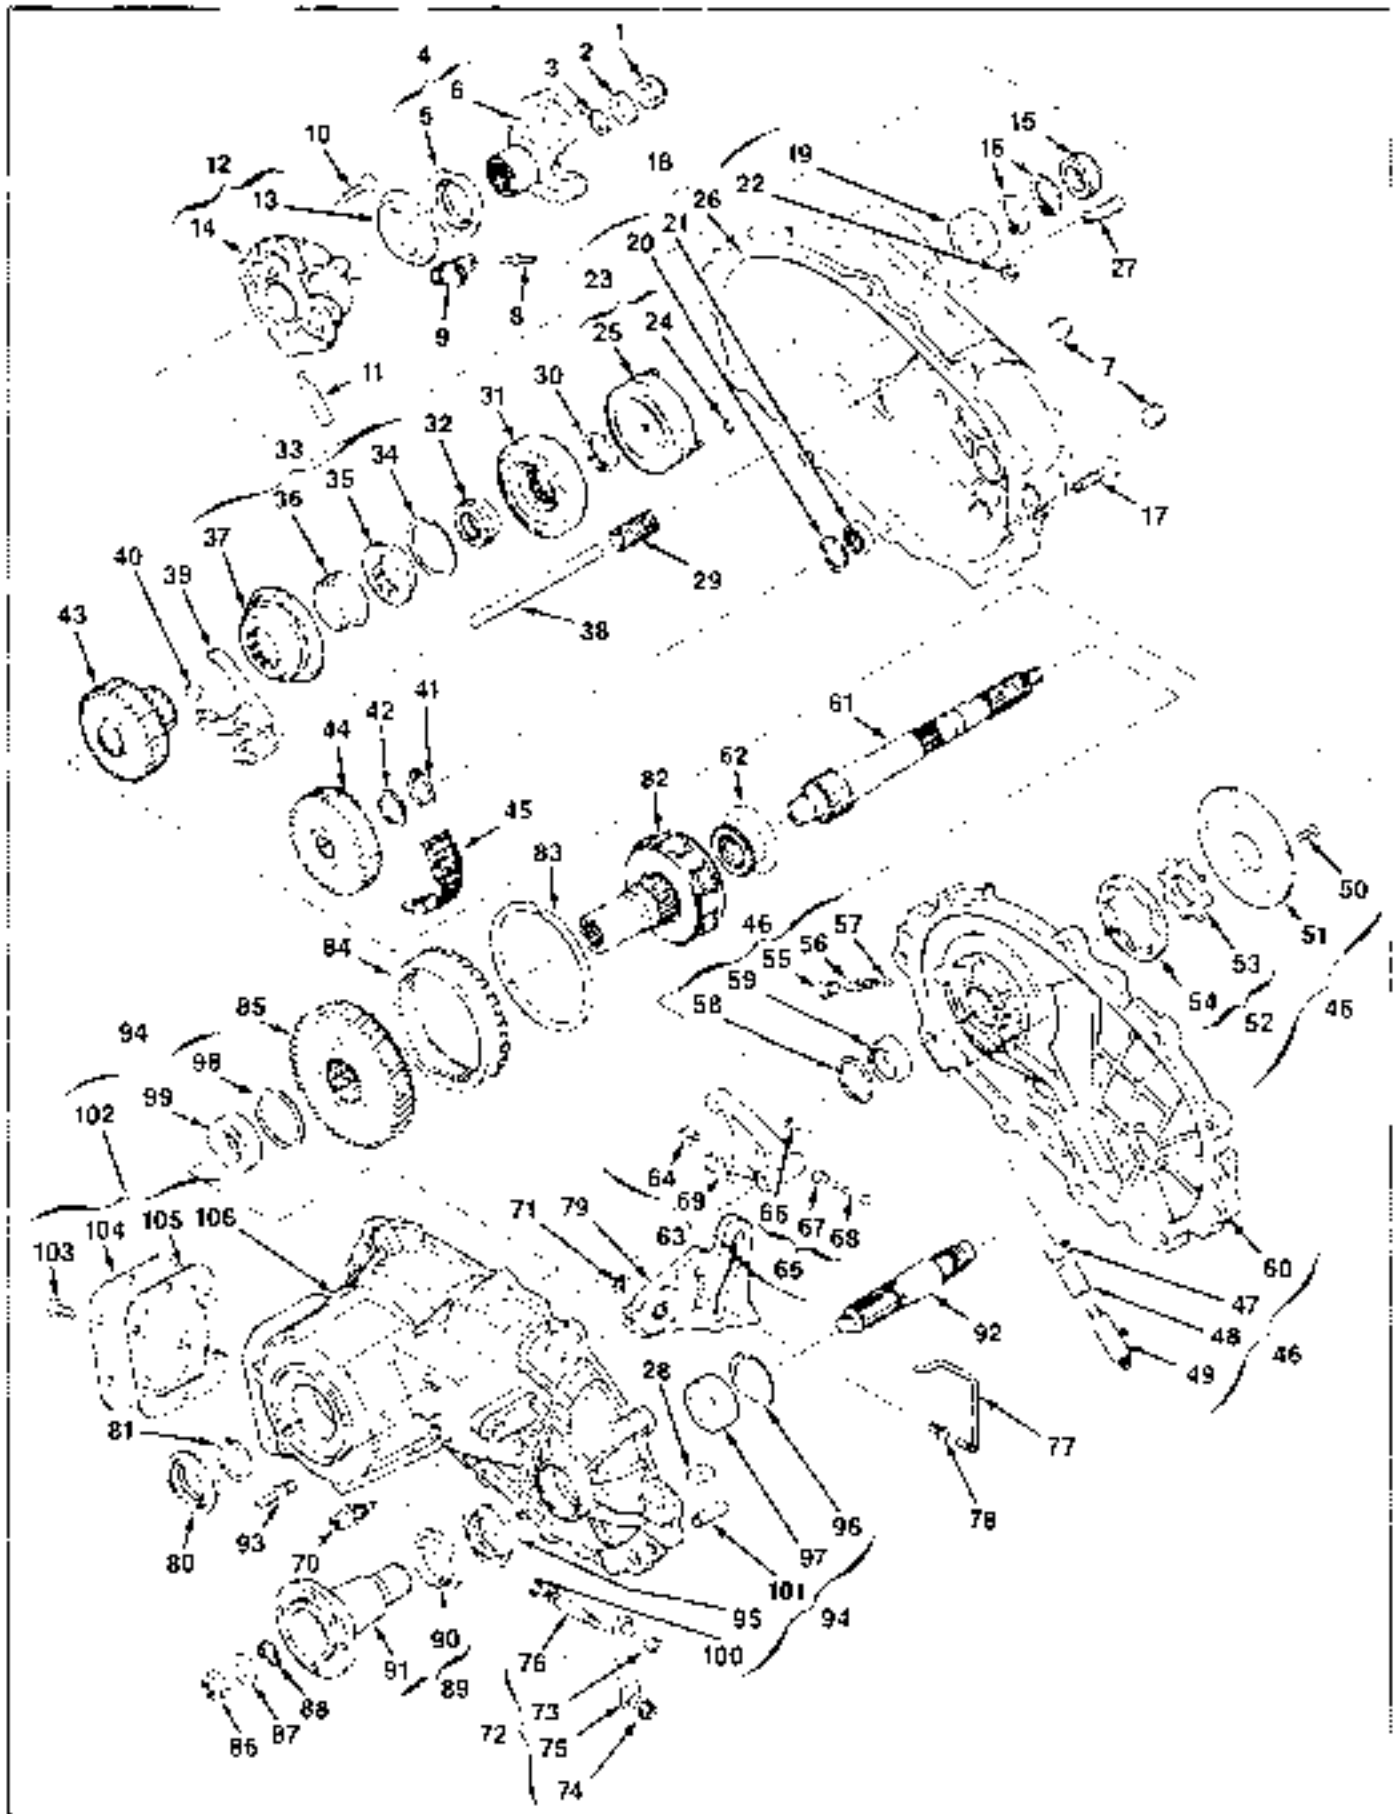

Figure P-1. Transfer Case Assembly PN 11-70-001
this column. Complete information on the identification tag (1), figure P-1 or P-2 should be included with all parts orders (see figure 1-1).
**PARTS LIST FOR FIGURE P-1**
**PARTS LIST FOR FIGURE P-1 (CONT)**